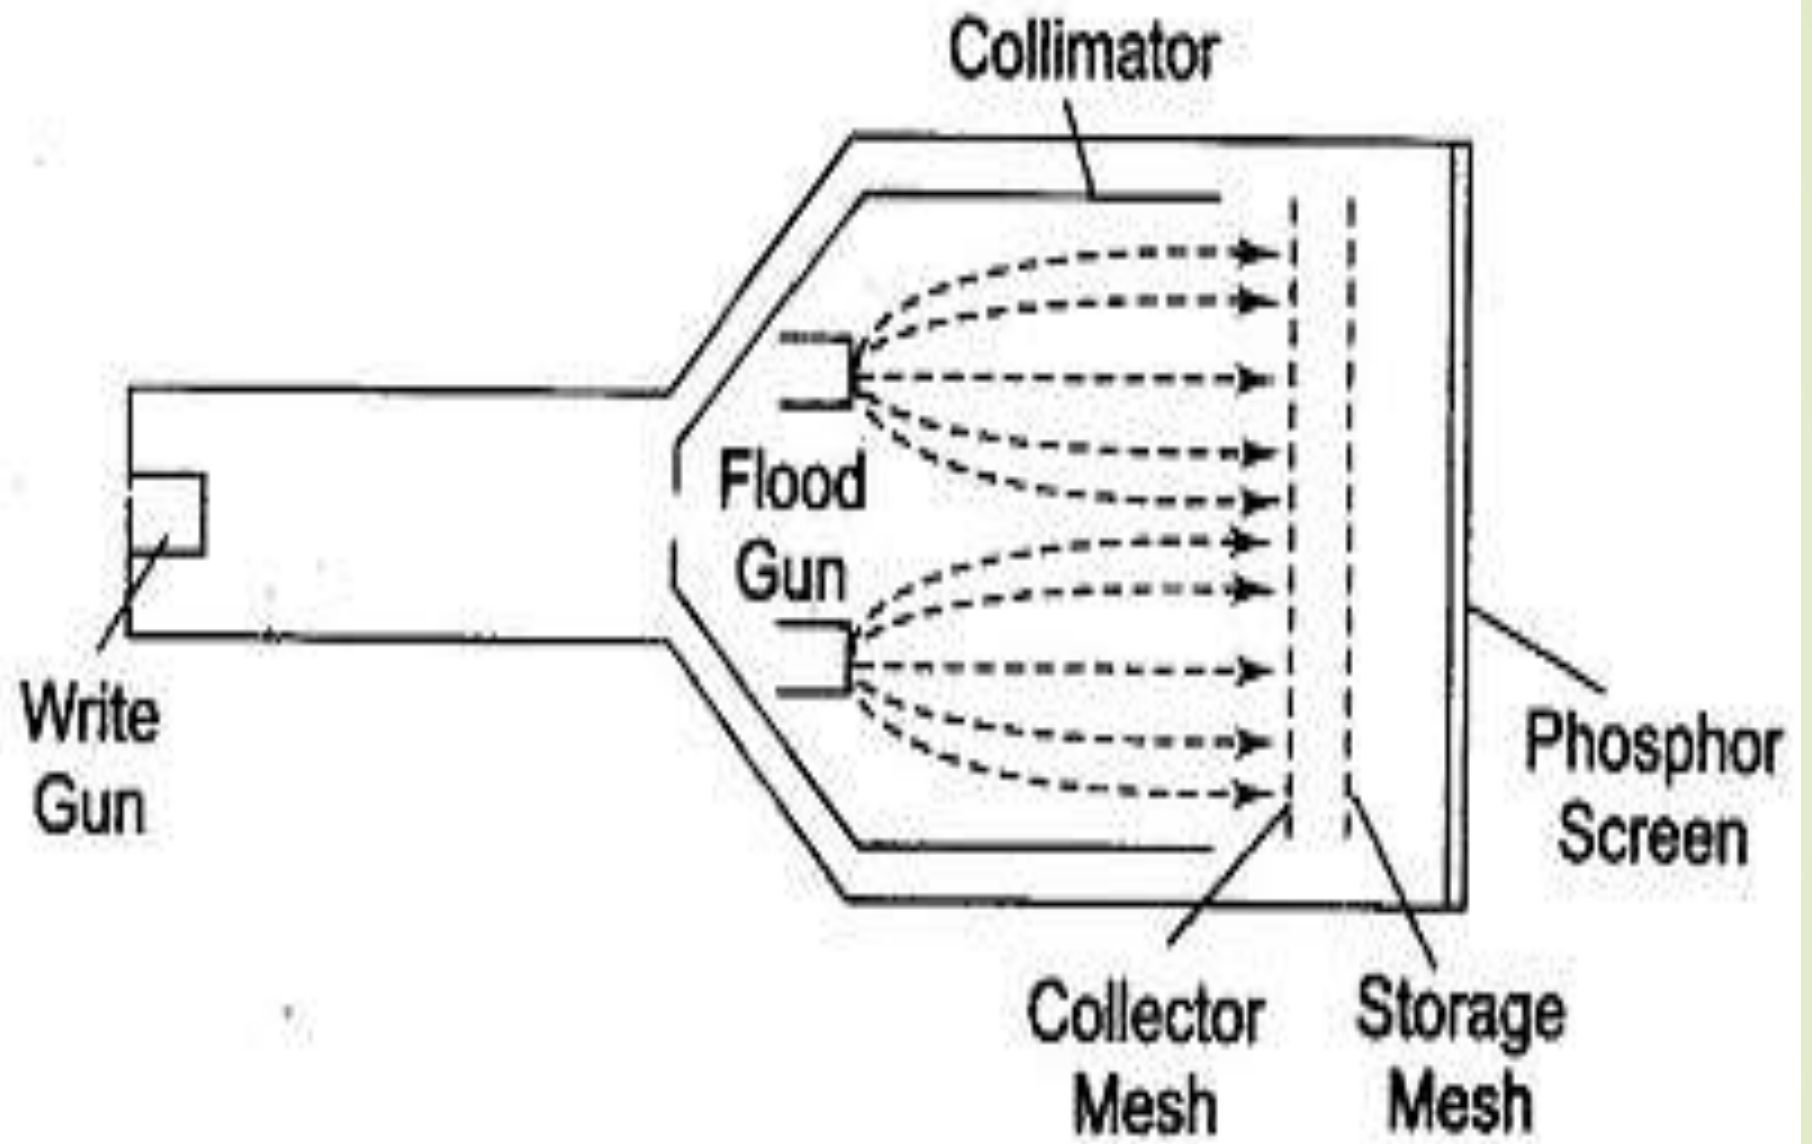

Fig. 7.27 Storage Mesh CRT
- The electron paths are adjusted by the collimator electrode, which constitutes a low voltage electrostatic lens system (to focus the electron beam), as shown in Fig. 7.27.